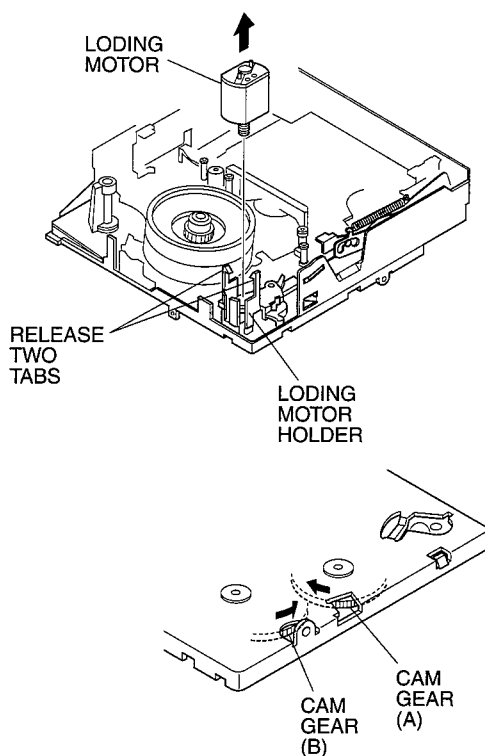

Fig.3-5
- (12) Release 2 tabs and pull out the loading motor from the loading motor holder. (See Fig. 3-5)